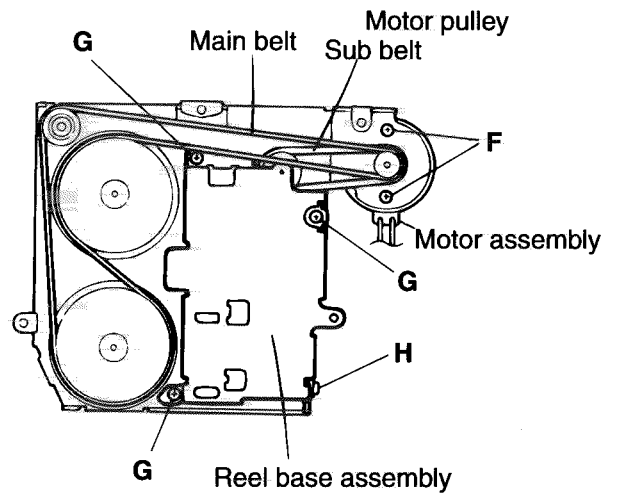

Fig. 8
■ **Removing the motor assembly (See Fig. 8)**
■ **Changing the sub-belt (See Fig. 8)**